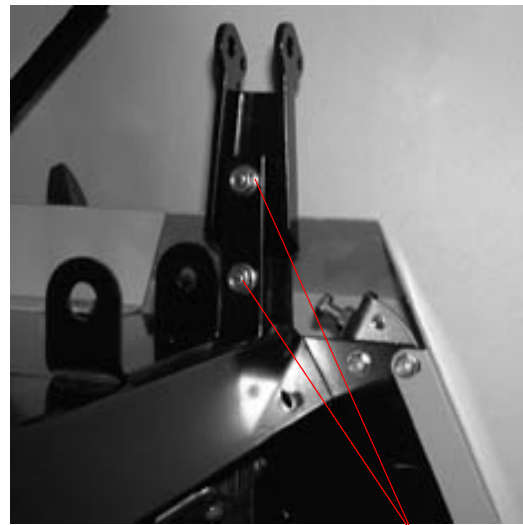

Figure. 11 Lap Bar Mounting Bolt and Nuts
- a. Remove the nuts from the lap bar mounting bolts (see Fig. 11).